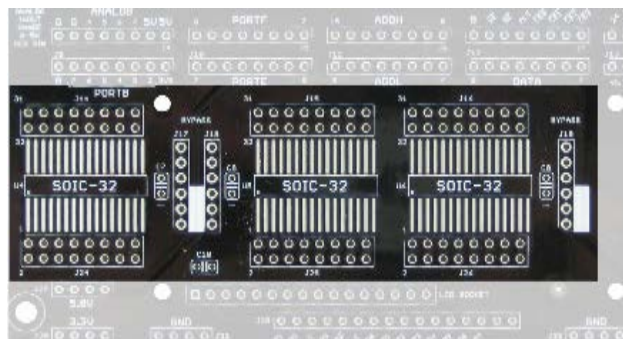
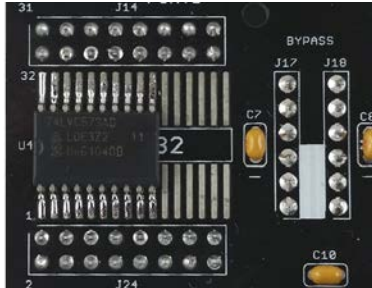

Figure 8: Locations (from left to right) of the 74'574 and 74'573 on uPad Proto Base.
Figure 9: Placement of 74'574 (even though the picture shows a 74'573).
2. Solder your 74'574 and 74'573 chips to the surface mount area of your uPAD Proto Base, as described below. Figure 8 shows the locations of the three SOIC (Small Outline Integrated Circuit) pads.
- a. Locate the left SOIC surface mount position just above your LED bank, as shown in Figure 8. Begin by applying flux the solder pads. Place the 74'574 surface mount chip with the notch oriented towards the left. The notch indicates that pin 1 of the chip is on the bottom left pad, as shown in Figure 9. Solder the two corner pins to the chip in place. Have your TA check your work. When your TA approves your positioning, solder the rest of the pins.